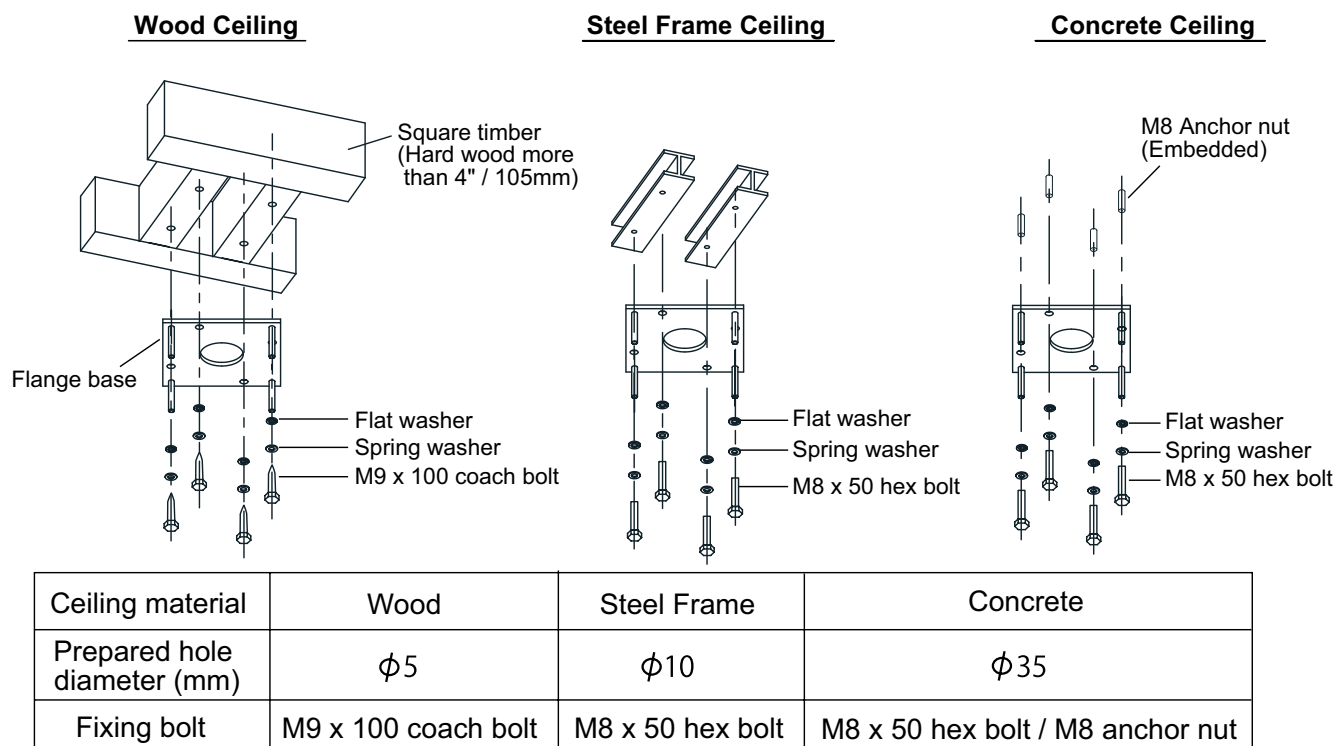

Fig.8 How to fix the flange base
- (1) Lead out the power supply cable (for indoor wiring 0.75m/m x 2 wires power cable or mode) from the ceiling as necessary length (Approx. 24"/60cm) where the ceiling light is mounted.
- (2) Secure flange base to the ceiling referring to **Fig.8** as below.